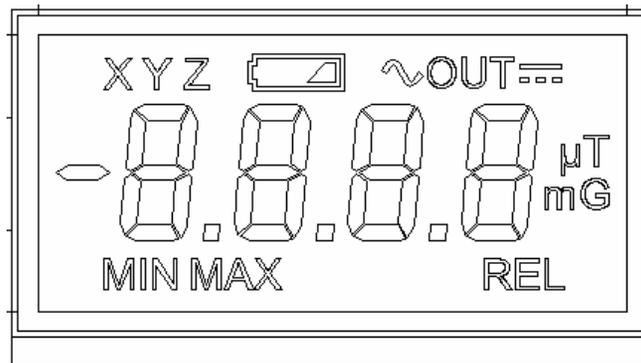
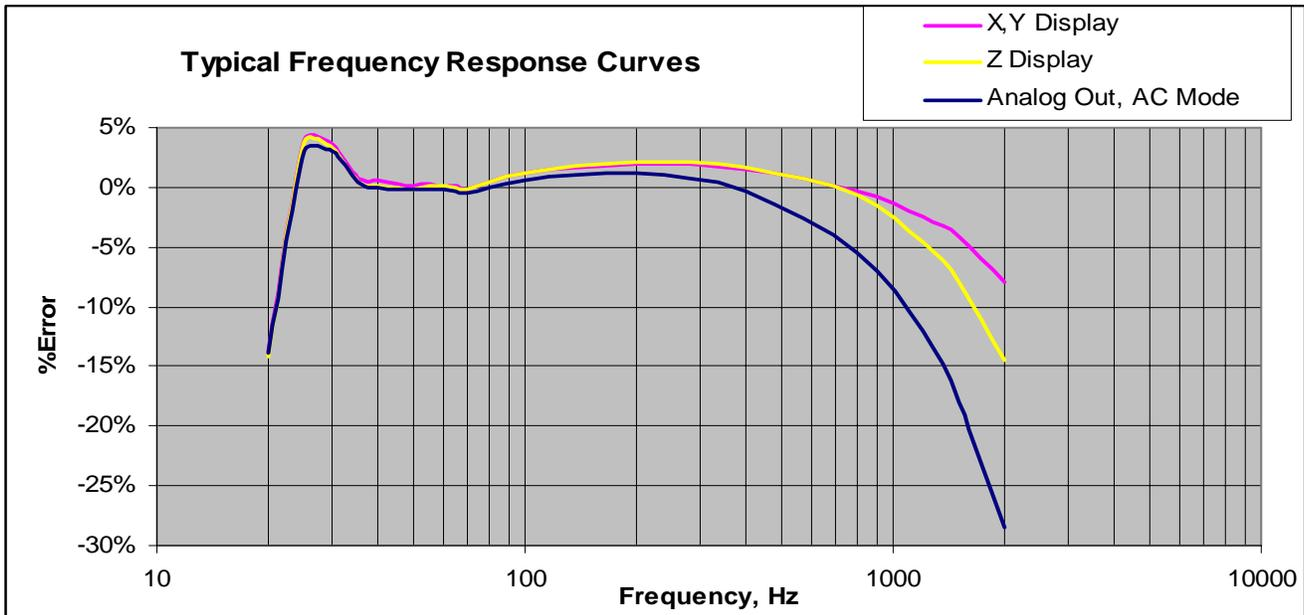

Figure 3-3
Figure 3.5
- 5 **RELATIVE / OUTPUT.** When REL is selected, the meter will establish the present field level as the “new” zero point. This feature is useful for measuring field changes relative to a field level other than zero. Model 4190 only: By pressing SHIFT- REL, the analog output is activated and a DC or AC signal proportional to the field magnitude will be available at the analog output 3.5mm connector. The 4100 Series does not respond to DC fields, but a DC analog voltage output proportional to the field level is available and may be more easily connected to a data acquisition system or other equipment. Calibration is set to 2.0 Vdc full scale when the analog output is set to the DC mode (OUT $\overline{---$). If the meter is operating on the low range then 2.0Vdc will correspond to 200mG or 20 μ T. If the meter is operating on the high range, then 2.0Vdc will correspond to 2000mG or 200 μ T. For example, 1.32Vdc could represent either 132.0mG or 1320mG depending which range the meter is on. The output when set to AC mode will be a time-varying signal which will allow the user to view the waveform on an oscilloscope if desired. The AC output is calibrated to 1.0VacRMS full scale and follows the typical frequency response curve as shown in Fig. 3.5. Just like the DC mode, the AC output signal voltage may represent different field levels depending on whether the meter is operating in low or high range.
Low Battery Indicator: The low battery indicator is activated when the battery voltage falls below approximately 4.44 volts. The indicator is found on the top center section of the display. See figure 3-3.
UNITS: The units for the field level readings are found on the right-hand side of the display. By pressing the UNITS key, the meter will toggle between μT or mG . This function is operational while the HOLD or REL functions are active. See figure 3-3.
MIN / MAX (HOLD): (Model 4190 only) When the HOLD function is activated with the SHIFT- HOLD key sequence, MIN will be shown in the bottom left hand side of the LCD. Pressing the SHIFT-HOLD sequence a second time will display MAX, and a third time will turn the HOLD mode off again. The meter will record the highest reading when in MAX HOLD mode (or the lowest reading when in the MIN HOLD mode) since the time HOLD was activated or the reading was RESET. This function can be used in conjunction with RESET. By pressing the SHIFT- RESET key sequence, the held reading will reset to the present level. See figure 3-3.
REL: When performing a relative measurement, the REL indicator will become visible on the bottom right-hand side of the display. See figure 3-3.
Analog OUTPUT: When the analog output is activated, the indicator “OUT” is visible accompanied by either the DC (---) or the AC (~) symbol. This feature is only functional on the Model 4190. By pressing the SHIFT–OUTPUT key sequence the meter will switch between output off, DC OUT, or AC OUT. See figure 3-3. In DC OUT mode the signal is calibrated to 2.0Vdc full scale. In AC OUT the signal is a waveform calibrated to 1.0VacRMS full scale and rolls off at higher frequencies due to the filtering in the output circuit. This is typically $\pm 3\%$ from about 30 to 500Hz, decreasing to -3dB at 20 and 2000Hz. See Fig. 3.5 for a typical response curve. AC output (~) is only available in the single axis modes. In XYZ mode only a DC analog output is available.